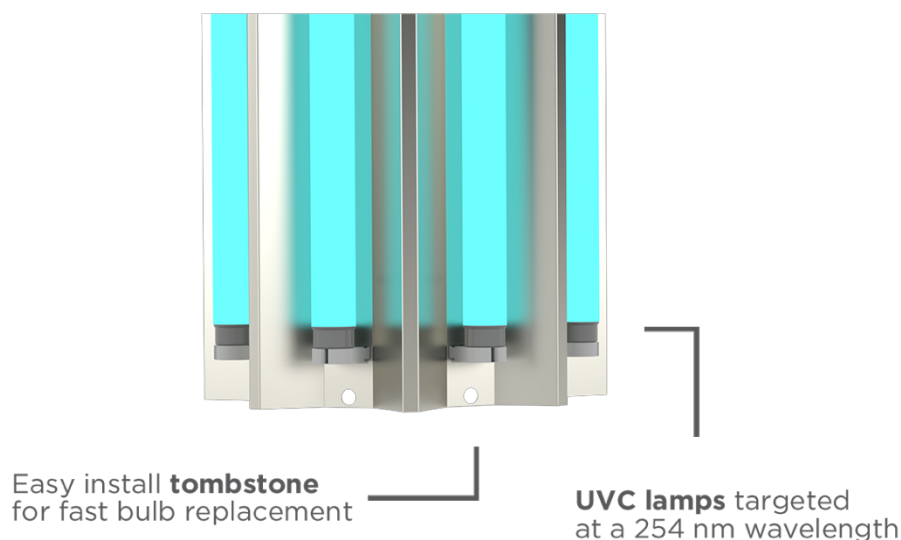

Figure 2
4. Carefully remove the used UVC lamp and replace with the new lamp. Refer to the Lamp Installation Instructions above listed 1 through 8. See **Figure 2**.